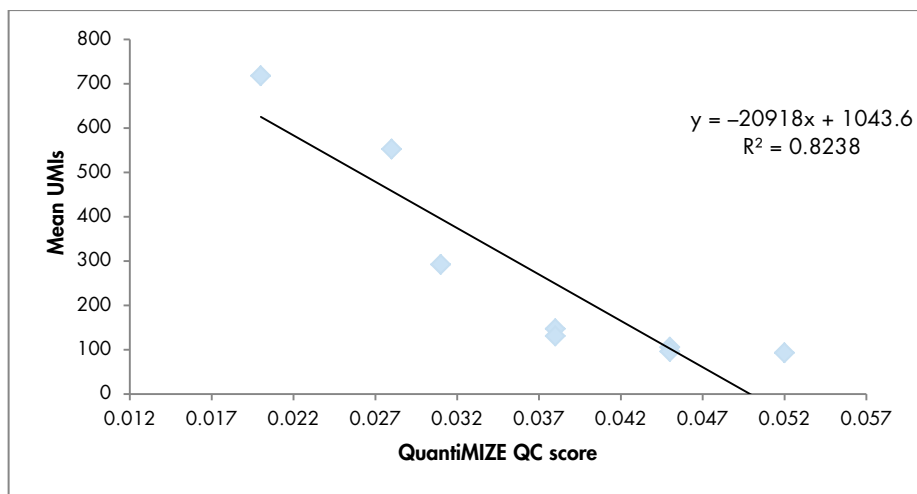

Figure 12. Correlation between QIAseq QuantiMIZE QC Score and the number of UMIs.
The QIAseq DNA QuantiMIZE System is recommended for determining FFPE DNA input for the QIAseq Targeted DNA Panels. If FFPE DNA is defined as high quality (quality control (QC) score ≤ 0.04) by QuantiMIZE, then up to 100 ng of DNA can be used. If the DNA is determined as low quality (QC score > 0.04) then up to 250 ng of DNA can be used. The QC score of QuantiMIZE reflects the amount of amplifiable DNA present in the sample, therefore correlating with the number of UMIs that can be sequenced in the library (Figure 12, next page).